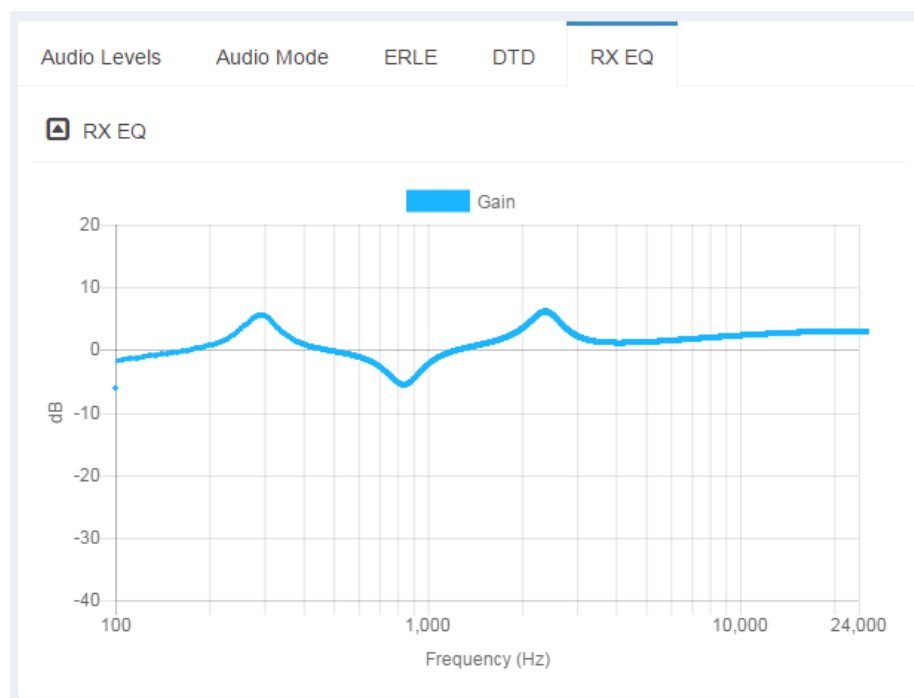

Figure 14 Graph – Rx EQ
The equalization (EQ) graph, shown in Figure 14, displays the composite Rx PEQ response applied to the downlink audio from the AVS.